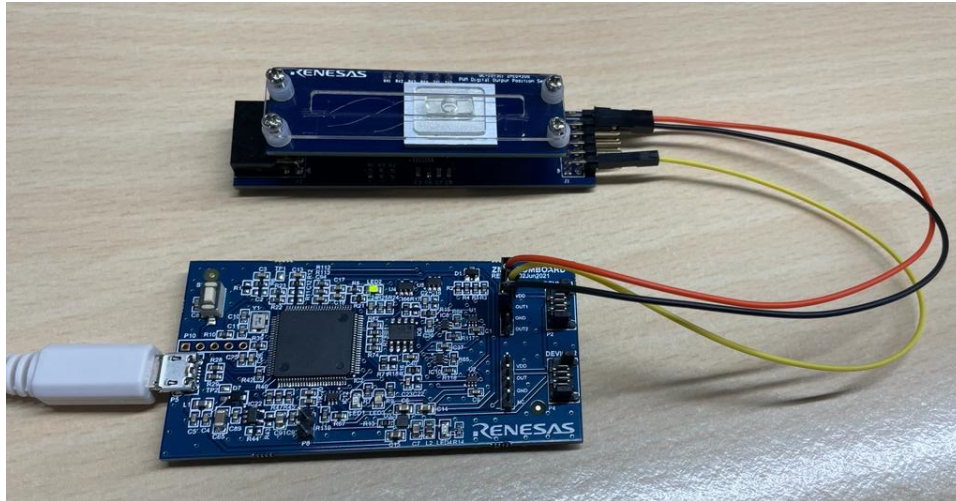

Figure 4: QC-IOT31-ZMID4200POCZ & ZMID4200STKI Hardware Setup
- 4 After the successful connection we will be able to see the window as shown above. As shown in figure 4.